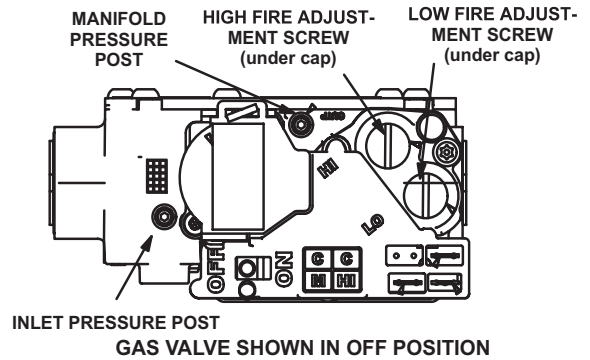

FIGURE 8
- 2 - Remove the access panel. Move the automatic gas valve switch to OFF. See figure 8.
- 6 - Move the switch on the gas valve to OFF. Do not force the switch. See figure 8
An inlet pressure post located on the gas valve provides access to the supply pressure. See figure 8. Back out the 3/32 hex screw one turn, connect a piece of 5/16 tubing and connect to a manometer to measure supply pressure. Check supply pressure with unit on high fire. On multiple unit installations, check each unit separately and with other units operating. See table 2 for supply line pressure. Following supply pressure test, shut off unit, remove manometer and tighten pressure post hex screw
**All units** - A manifold pressure post located on the gas valve provides access to the manifold pressure. See figure 8. Back out the 3/32 hex screw one turn, connect a piece of 5/16 tubing and connect to a manometer to measure manifold pressure.
- 5 - Figure 8 shows location of low fire adjustment screw. 5 - Repeat on high fire and compare to value given in table 2. If necessary, make adjustment. Figure 8 shows location of high fire adjustment screw.